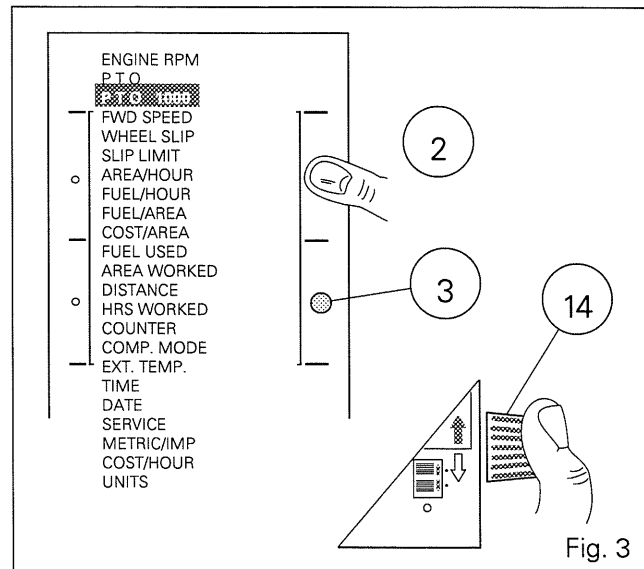

Fig. 3
1 - Press the key 2 or 3 to access the available functions (fig. 3).